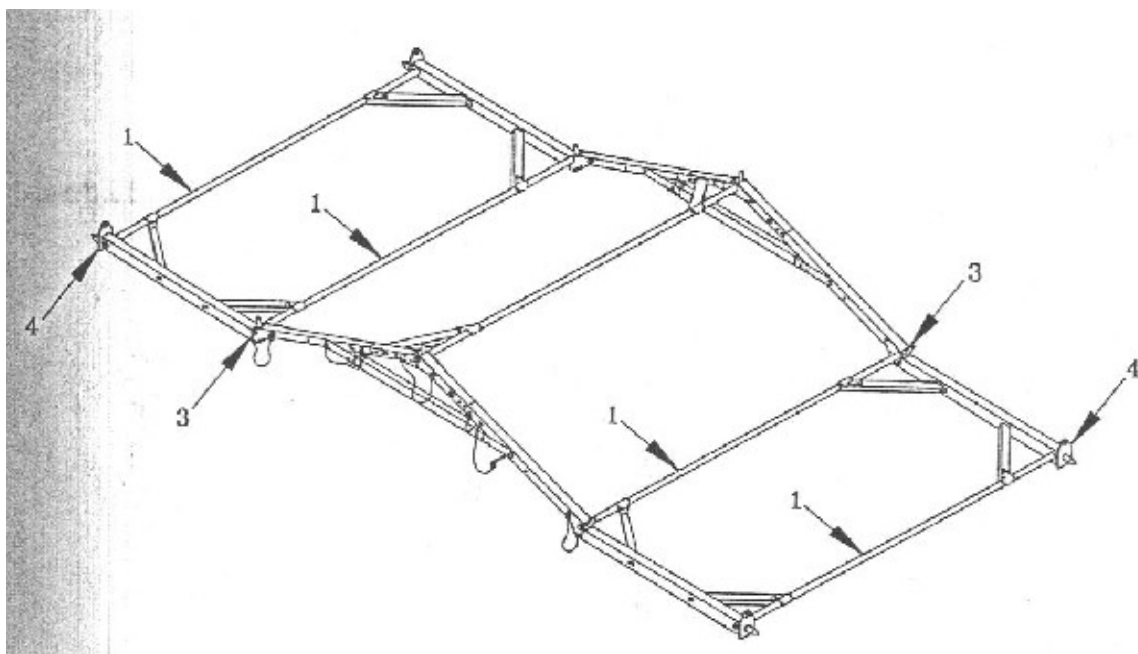

Figure 3-5
- (1) Join the screens by clipping the edges together with the lanyard cord, which is packed with the screen.
- (2) Ensure all pins on the lanyard cord point in the same direction.
- (3) Make repairs, if needed.
- c. Place the TEMPER TENT in position on the ground. (See Figure 3-5,3-6,3-7)
- (1) Starting at the ridge, two soldiers working together, one on each end of purlins, align and insert purlin stud in hole frame and rotate 90 degrees to lock purlin to frame.
- (2) Align stud in purlin (1) diagonal brace with hole in the arch (4) See Figure 3-5.
- (3) Insert stud in hole and lock in place by rotating the handle right or left 90 degrees, and push handle down until it is parallel with frame.